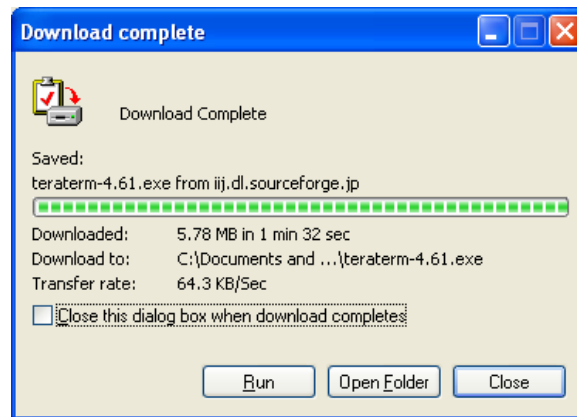

Figure 6-3: File Download Complete
- When the file download is complete, click **Run** (Figure 6-3).